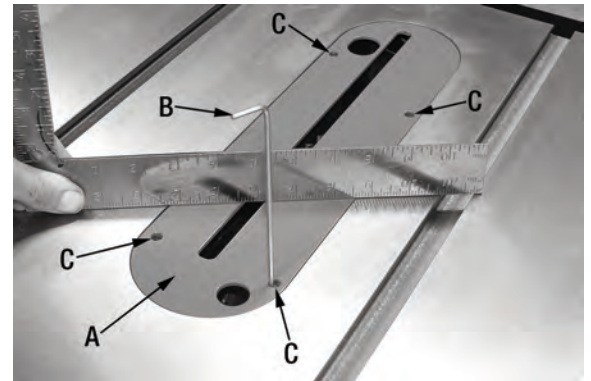

FIGURE 12
The standard table insert (A) Fig.12 gets placed in the opening in the saw table and should be perfectly flush with the surface of the saw table. To adjust the table insert, place a straight edge over the table insert and the table. Using a hex. key (B), turn the 4 adjusting flat head allen screws (C) under the insert, turn them in or out until all 4 corners of the insert are flush with the table top.